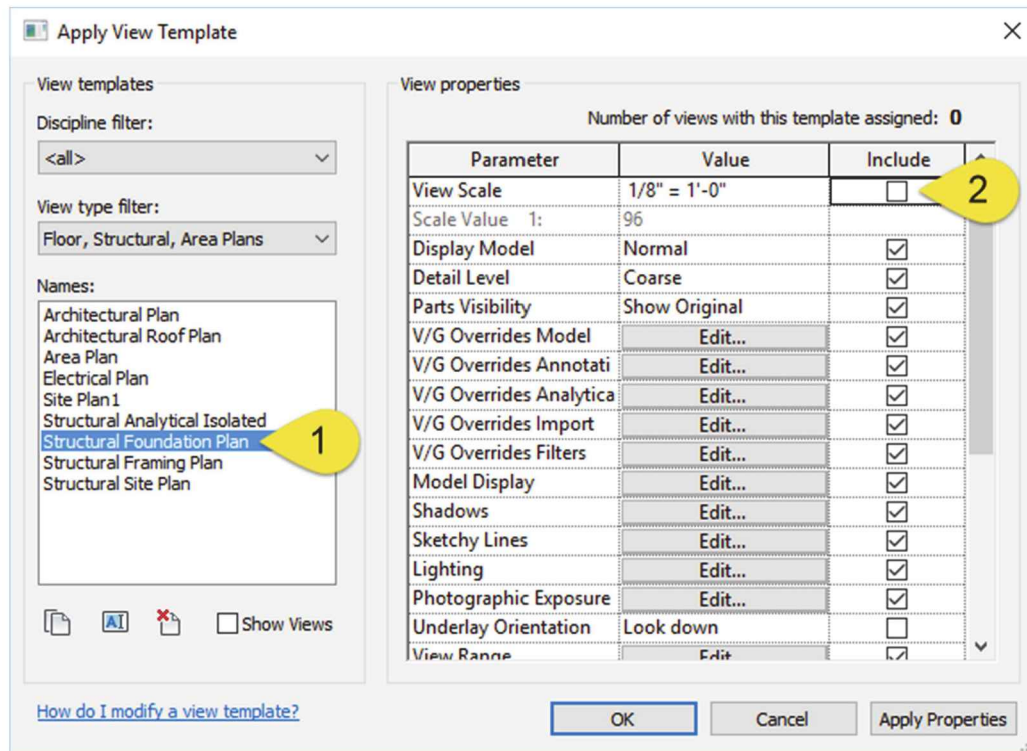

FIGURE 8-2.10 Apply View Template dialog – Structural Level 1
You are now in the *Apply View Template* dialog (Figure 8-2.10). Take a moment to observe all the settings it has stored and are about to be applied to the selected view, the one you right-clicked on.
28. **Uncheck** *View Scale* (Figure 8-2.10) and then click **OK** to apply the *View Template*.